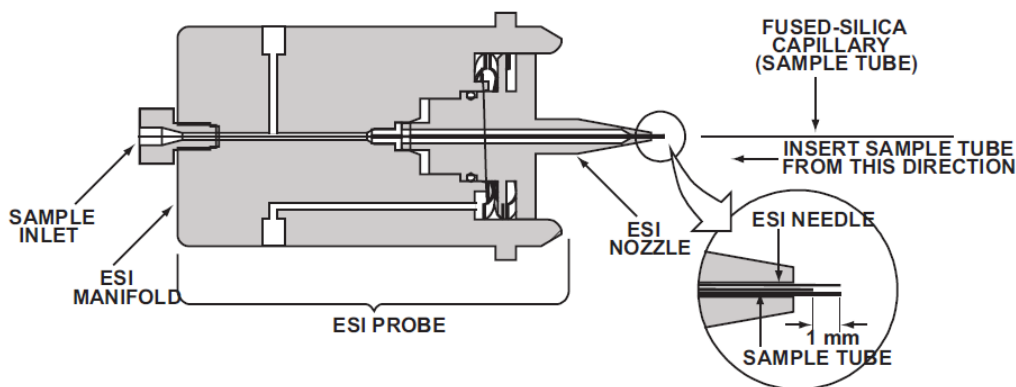

Figure 6. Installing the ESI fused-silica sample tube.
8.2.1.1.4. Insert the fused-silica tube through the exit end of the ESI spray needle and into the ESI probe. See Figure 6.